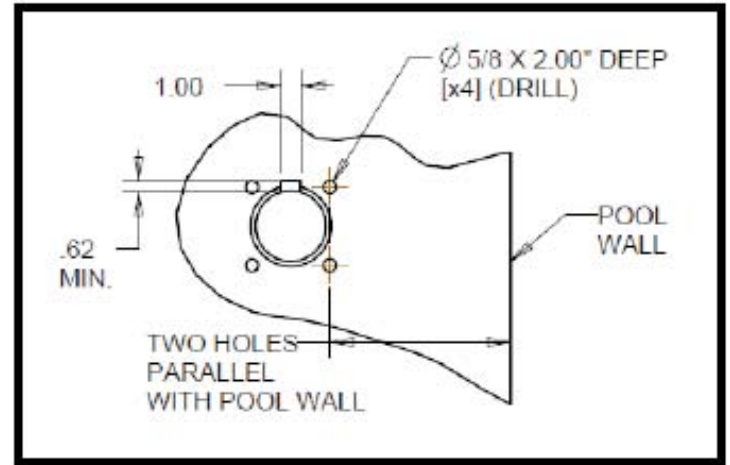

Fig 3: Mounting Hole Specs and Cutout Dimensions..
- 3 Using the Hammer Drill, cut a 0.38" min. x 45° chamfer around the edge of the hole, do not exceed 0.50" chamfer, and also cut the 1" wide x 1/2" deep notch, see Fig. 3 & 4.
- 6 Align Base properly, mark the locations of the four holes on the base, and remove Base. Using the Hammer Drill and 5/8 Masonry Drill Bit, drill the four 5/8" holes. Make sure the Drill is square to the deck and drill straight down to a depth of 2.00", see Fig. 3.
- 4 Allow the concrete to slightly set, but not fully harden and using the Trowel, cut a 0.38" min. x 45° chamfer around the edge of the hole and also cut the 1" wide x 1/2" deep notch, see Fig. 3 & 4.
- 7 Align Base properly, mark the locations of the four holes on the base, and remove Base. Using the Hammer Drill and 5/8" Masonry Drill Bit, drill the four 5/8" holes, see Fig. 3. Make sure the Drill is square to the deck and drill straight down to a depth of 2.00" or until the drop anchors will rest flush with the deck.